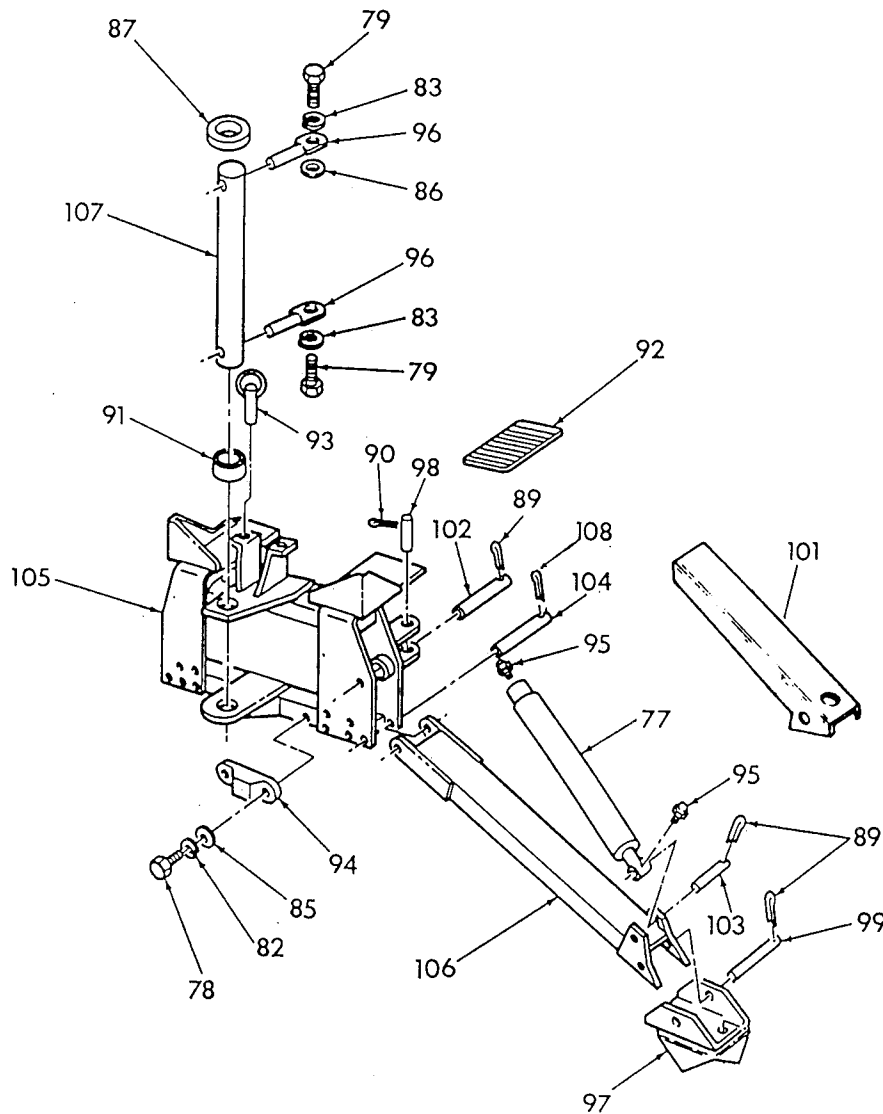

FIG 15
**PARTS LIST - FIG. 15**      **SERIAL NUMBER**